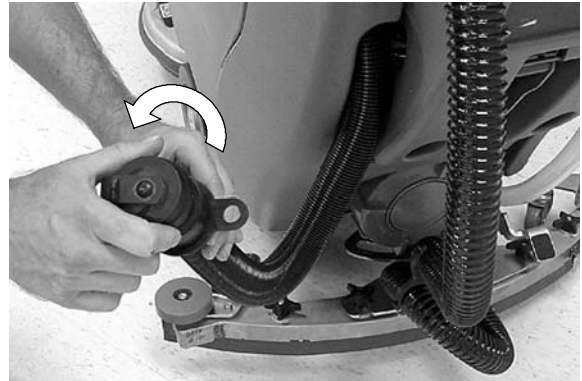

FIG. 28
1. Remove the recovery tank drain hose cap by turning it counter-clockwise and drain the tank (Figure 28).